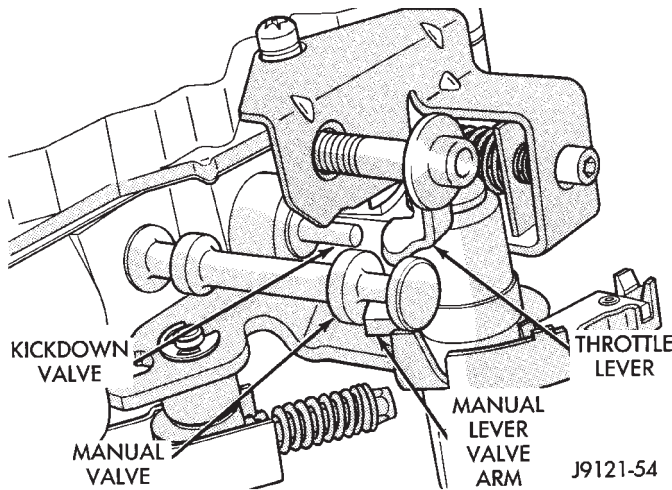

Fig. 71 Manual Valve And Throttle Lever Alignment
(43) Insert throttle lever into groove in manual valve (Fig. 71).